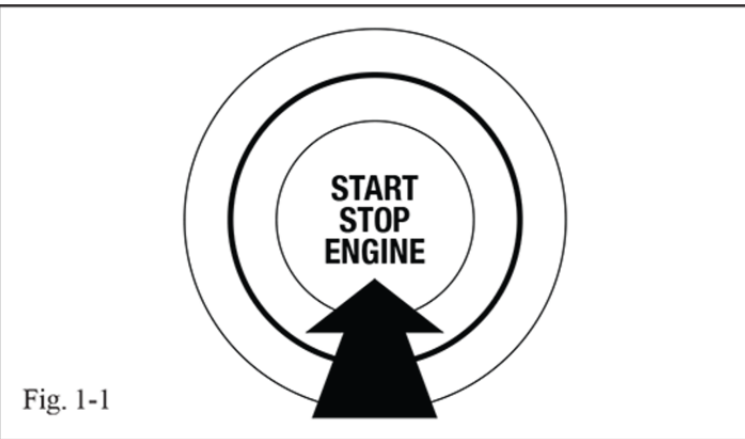

Fig. 1-1
(b) Check for proper activation of the “ENGINE” switch Power supply changeover. (Fig. 1-1)
(1) OFF
(2) Press once: ACCESSORY mode. (Fig. 1-1)
(3) Press twice: “IG-ON” mode (Fig. 1-1)
(4) Press three times: OFF (e) In each mode, check that the power supply has changed properly. (Fig. 1-1)